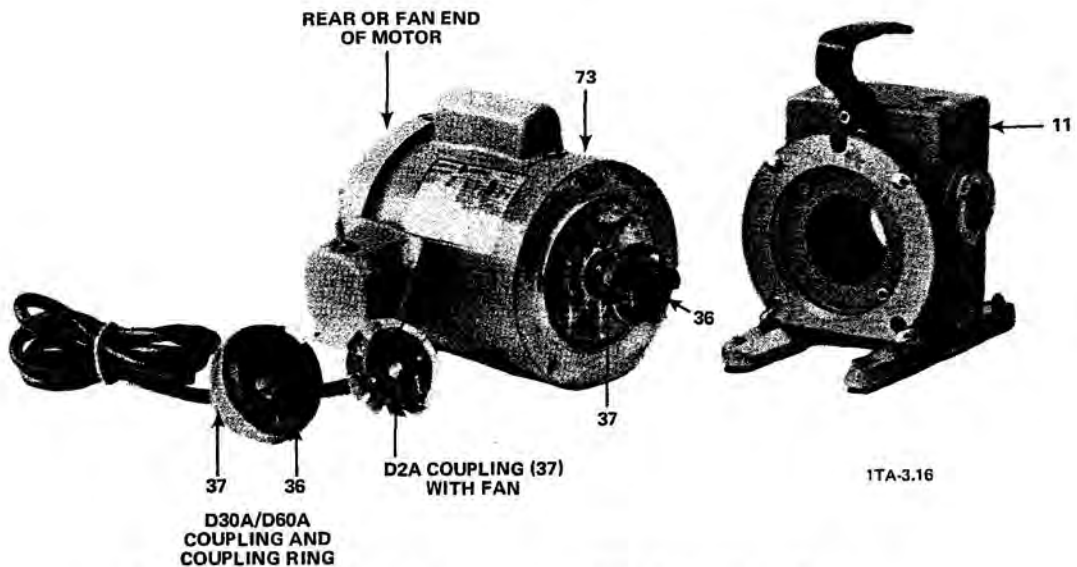

Figure 5-15. Coupling Housing and Motor (D2A Pump Model Shown)
- D-13** Using a U.S. standard wrench, unscrew and remove the four nuts and washers that attach the motor (73) to the coupling housing (11). Remove the motor from the coupling housing (see Figure 5-15).
- D-14** For the D2A, D4A, D8A, and D16A pump models only, pull the elastic element (36) off of the coupling (37) mounted on the motor shaft (see Figure 5-15).
E-7. Thoroughly clean the coupling housing (11), making certain that no dirt has accumulated in the crevices of the housing (see Figure 5-15).
- (b) Check if the fan on the rear end of the motor is rotating in the correct direction. Looking from the fan end of the motor, the fan and motor shaft should be rotating clockwise (see Figure 5-15).
**b. Steps b(1) and b(2) below apply only to D30A, D60A, and D90A pump models with three phase motors.**
- (1) **If the pump has a new motor supplied by Leybold**, a rotational lock bearing has been correctly installed at the factory to prevent the motor from rotating in the wrong direction. In this case, check the **wiring** of the motor as follows:
- (b) Check if the fan on the rear end of the motor (see Figure 5-15) rotates.
- (2) **If the motor was not supplied through Leybold or the pump has an old Leybold supplied motor**, grab the motor shaft or motor fan and attempt to turn it clockwise and then counterclockwise; then proceed as follows: